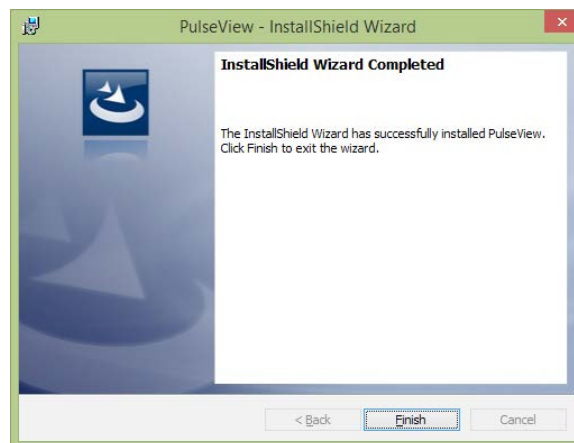

Figure 3.43. PulseView Software Installation Complete
5. Click **Finish** when the software installation is complete (Figure 3.43).